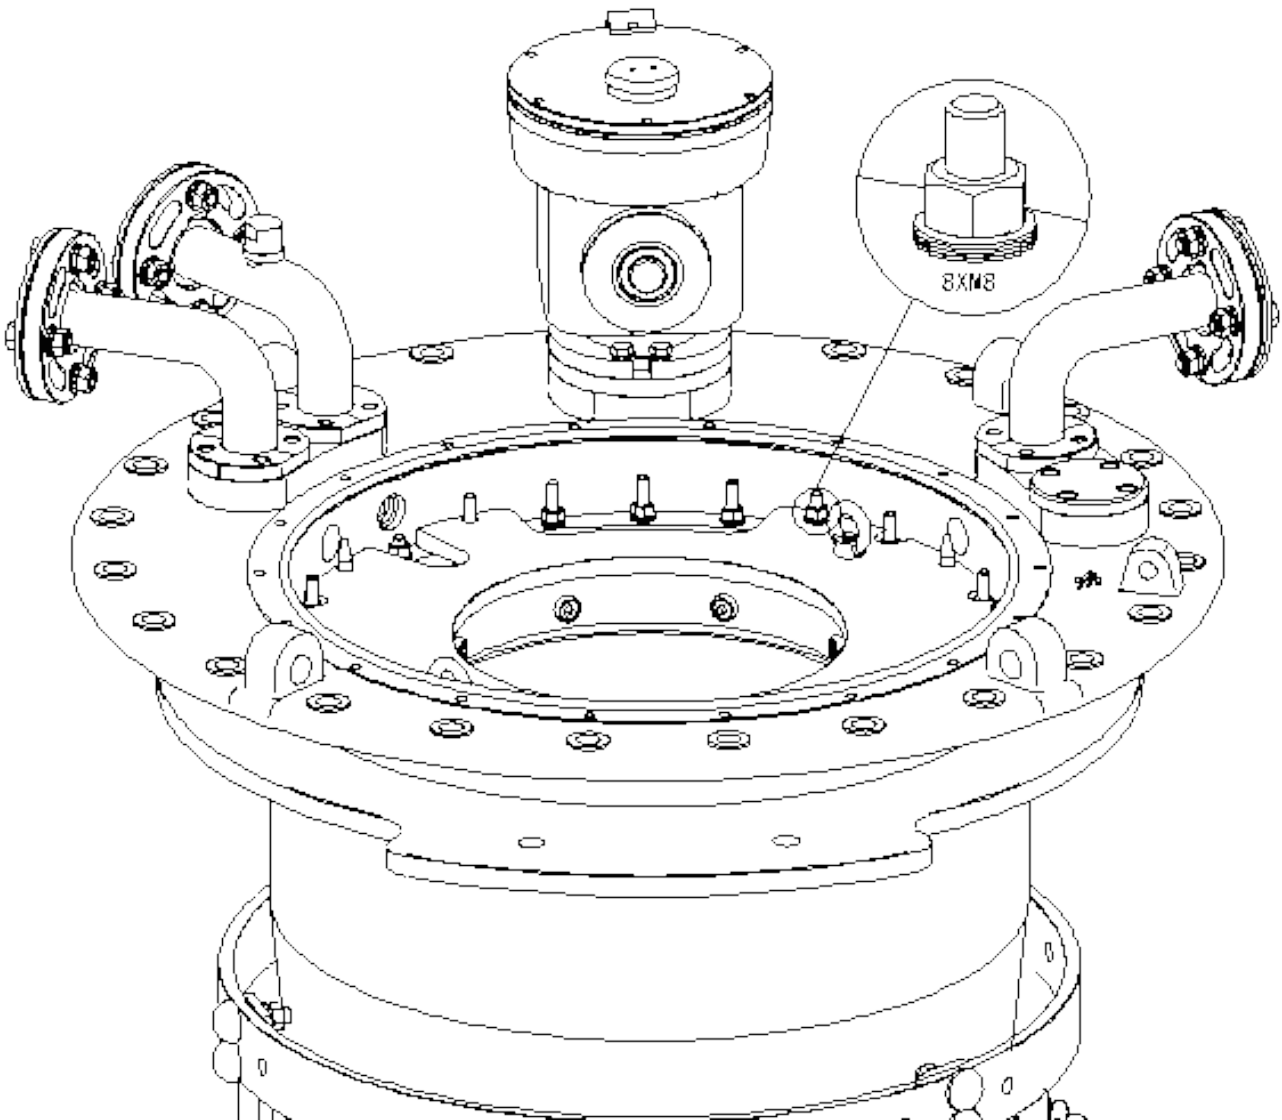

Figure 5-4 Removing the Nuts Securing the Diverter Switch Insert
4. Remove the nuts from the areas on the flange that are not marked with red paint (eight M8 nuts with washers, use a 13mm wrench) (see Figure 5-4).